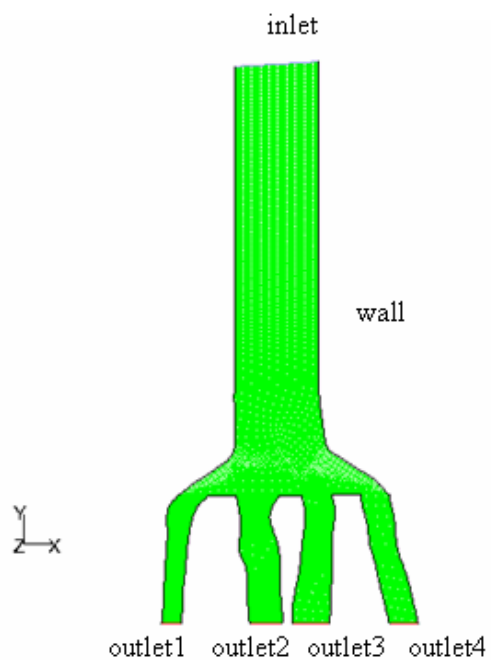

Figure 2.2: Grid Display
4. Display the grid (Figure 2.2).
- (a) Click Display to display the grid (Figure 2.2).